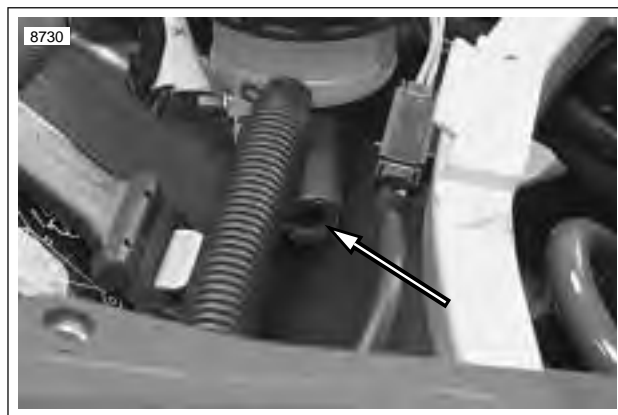

Figure 3-28. Transmission Vent Line
36. See Figure 3-28. Cut the two tie wraps holding transmission vent line and pull vent line out of frame leaving it attached to engine.